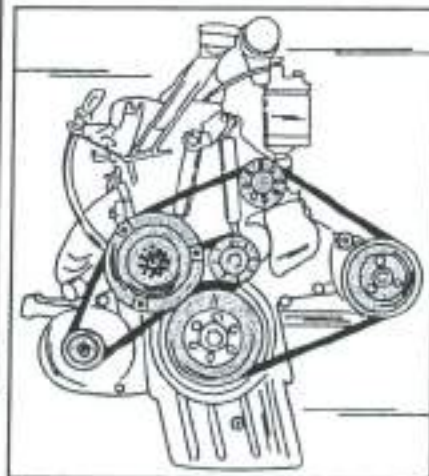
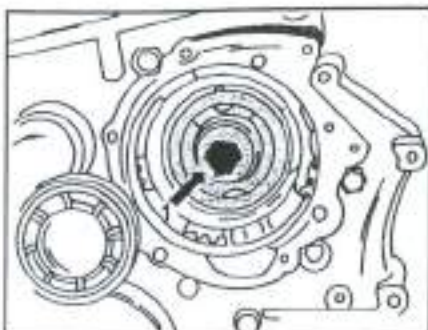

Fig. 1.90 - Layout of the drive belt for basic models without power-assisted steering.
Fig. 1.96 - Locking the governor inside the injection pump, using the special locking pin.
Figs. 1.90 and 1.91 show the belt layout on some of the engines. If an A/C system is fitted, you will find an additional pulley below the pulley for the steering pump. The belt drive should be checked every 12,000 miles. To do this, mark an easy accessible part of the belt with chalk and crank the engine by at least one turn with the starter motor. To prevent the fring of the cylinders, push the stop lever on the injection pump towards the bottom. Ask a helper to operate the starter motor and check the whole length of the belt, i.e. until the chalk
- Remove the plug from the side of the injection pump at the position shown in Fig. 1.96. The serrated wrench 601 589 05 21 00 must now be used to rotate the pump until the lug (3) of the governor rotor is visible. In this position insert the locking tool 601 589 05 21 00, as shown in the illustration. Hand-tighten the nut of the locking bolt. If the tools can be obtained, carry out the operation by studying Fig. 1.90. Read the note below.
- The second method uses a checking gauge, which is inserted into the injection pump at the position shown in Fig. 1.96. By using an instrument with two test lamps, the exact injection point is shown on the degree scale on the crankshaft pulley/vibration damper.